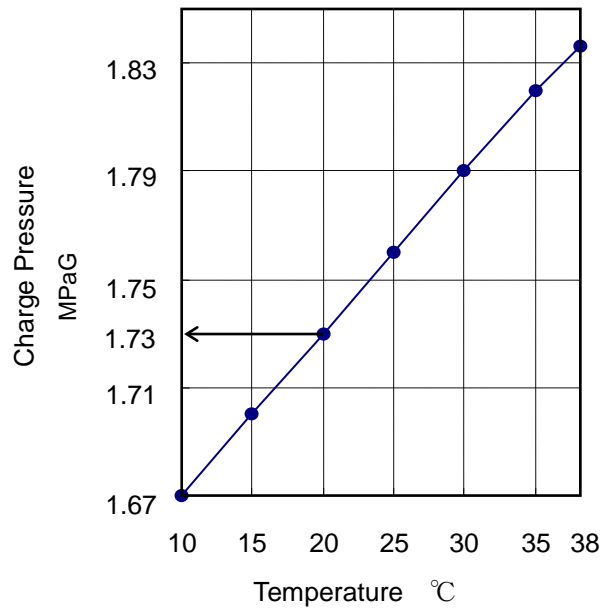

Figure 3-4 Static Pressure and Temperature
3. Check the helium gas pressure gauge for proper helium pressure. The standard helium charge pressure is $1.73 \pm 0.04 \text{MPaG}$ at 20°C . See Figure 3-4. If the indicated pressure is higher than the specified value, allow a slight amount of helium gas to escape by opening the gas charge valve **very slowly**. If the indicated pressure is lower than specified value, add helium gas as described in section 6.3.